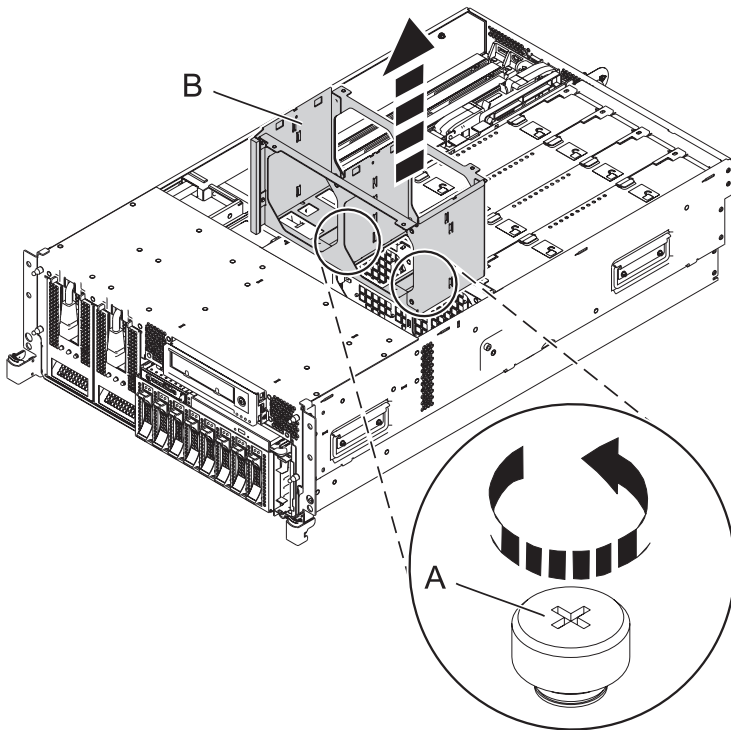

Figure 4. Removing the fan cage from the system
- c. To remove the fan cage, loosen the two thumbscrews (A) and lift the fan cage (B) out of the system as shown in Figure 4.